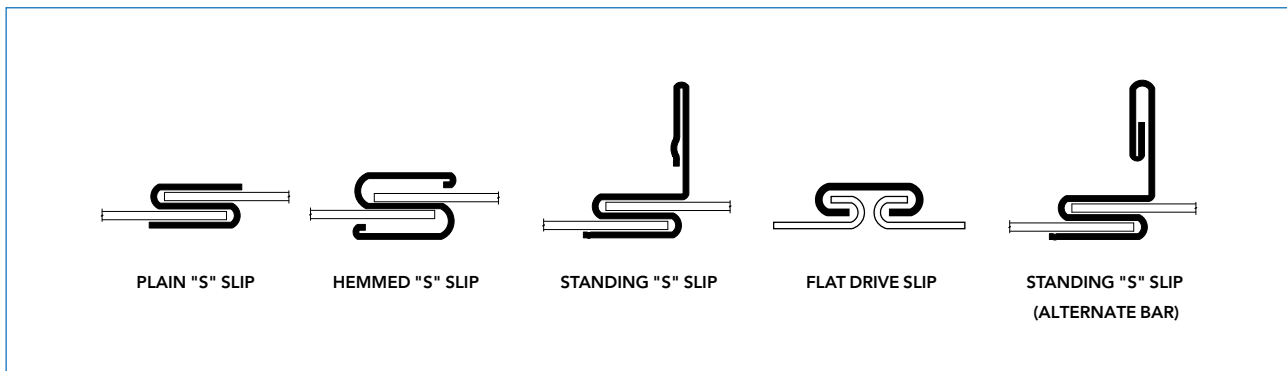

Figure 4 - Breakaway Connections.
11. The duct - sleeve connection to be as per what shown in figure 4, site installation shall comply with NFPA 90A.
- Breakaway connections, as shown in Figure 4, must include no more than two #10 (4.8 mm diameter) sheet metal screws per side and on the bottom. These screws should be centered within the slip pocket and penetrate both sides of it.
- Vertical Fire Dampers: Breakaway connections, as shown in Figure 4, must be placed on the top and bottom of horizontal ducts, as well as on the sides. Alternatively, they may be positioned on the top and bottom of horizontal ducts with flat drive slips on the sides, as shown in Figure 4. The length of the flat drive slips must not exceed 20 inches (508 mm).
- Horizontal Fire Dampers: Breakaway connections, as shown in Figure 4, must either be present on all sides of vertical ducts or on one pair of opposite sides, with flat drive slips installed on the other pair of opposite sides. Flat drive slips, as shown in Figure 4, must also not exceed 20 inches (508 mm) in length.